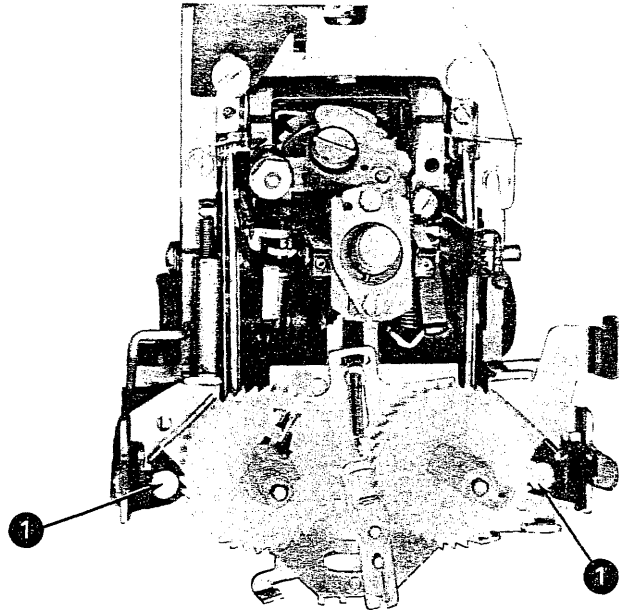

Figure 4-54. Carrier and Rocker Removal (Step 1)
1. Remove the ribbon-feed-mechanism mounting screws (No. 1, Figure 4-54).